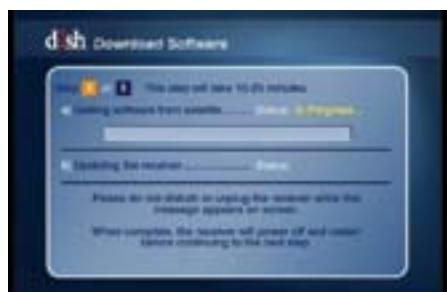
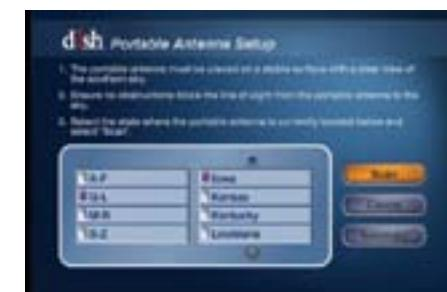

Figure 1
Figure 2A
- 2 During step 2 of the Installation Wizard, the unit will need to acquire satellites and update the receiver (see fig. 1). This step will require a search initiated by the Mobile Setup screen. Depending on the manufacturing date of your receiver, either figure 2A or 2B will be used. Fill in the required information, and then select "Scan" to begin the search routine.
- ④ The satellite will return to step 2 and begin updating the receiver (see fig. 1). Once completed, the receiver will reboot.